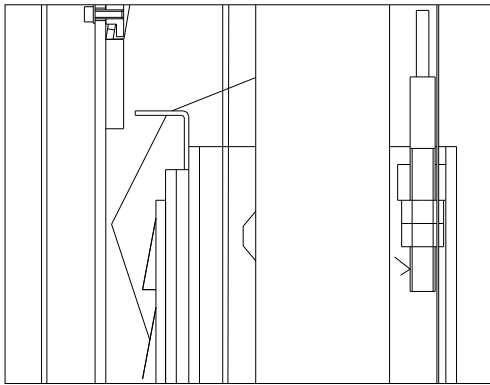

Fig. 15
- ◆ Keep both cables in balance during raising or lowering. **(Fig. 15)**
- ◆ If the moving part exceed its travel distance, on the upper part of the command post there is one limit switch and is usually set working by the “actuator” (Fig. 15) on the command side carriage. If the first limit switch did not work, the second one would trip after 3sec of carriage run.